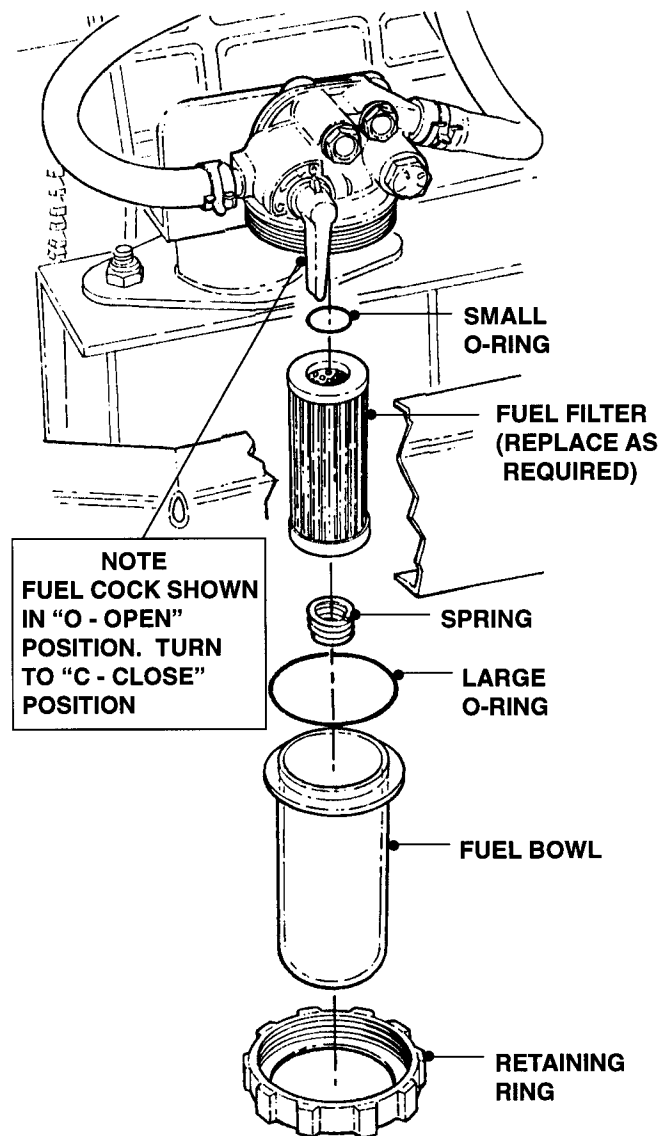

FIGURE 5.2
1. Close Fuel Filter Cock. See Figure 5.2.